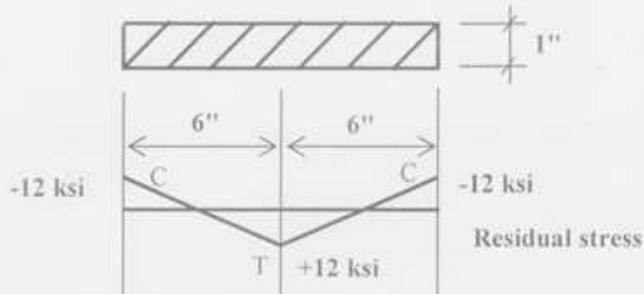

Fig. 5
5. In the three-dimensional truss ABCD shown in *Fig. 5*, ignore zero-force members and formulate the stiffness matrix, load vector and write down the boundary conditions [Given, $EA/L = \text{constant} = 500 \text{ k/ft}$].
7. The residual stress for a 12×1-in. plate to be used as a tension member is shown in Fig. 5. Determine the equation for the stress-strain behaviour in tension of the plate at an imposed tensile strain of 0.0014.